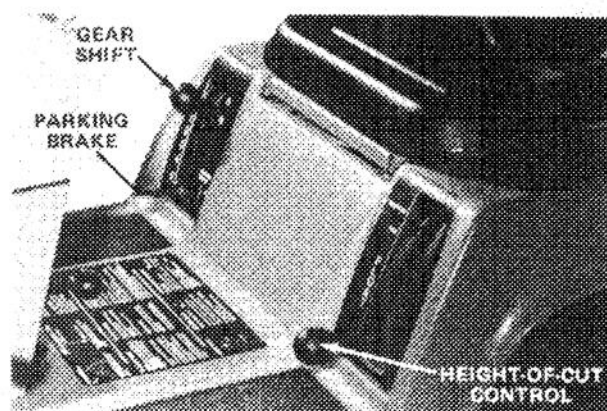

Figure 16
Parking Brake (Fig. 16) — Parking brake is used in conjunction with standard brake assembly. When brake pedal is depressed and parking brake lever is pulled upward, a latch plate secures the brake assembly in the engaged position preventing the machine from moving.
Gear Shift (Fig. 16) — Transmission has five forward speeds, neutral and reverse, and has an in-line shift pattern. An interlock switch, which prevents engine from being started when transmission is in gear, is mounted on the top of the transmission.
Height-of-Cut Control (Fig. 16) — Height-of-cut control varies the cutting height from 1 to 4-1/2 inches (25 mm to 114 mm) in seven positions.
1. Assure the deck engagement switch is in DISENGAGE position (Fig. 16).